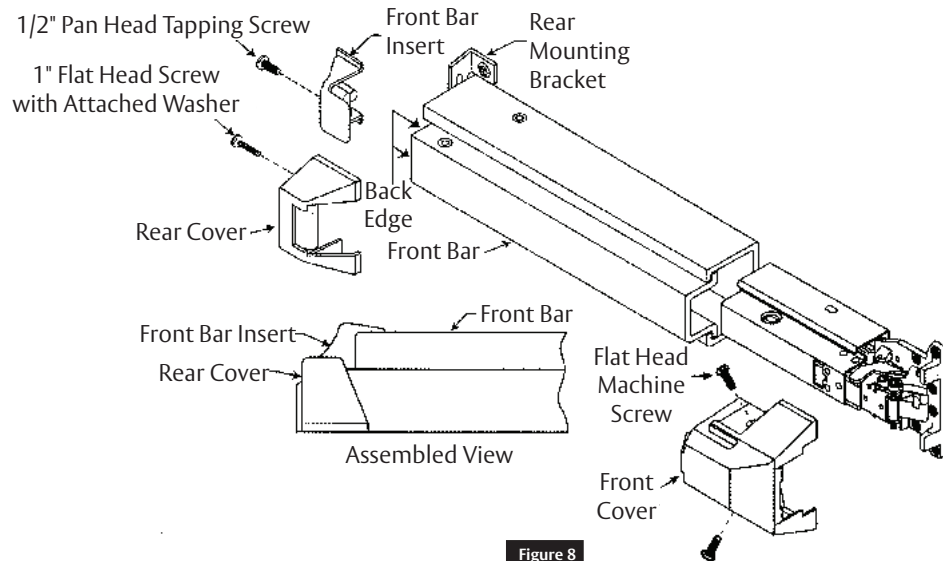

Figure 8
- D. Install front and rear cover using 1" flat head screw with attached washer. (Figure 8)